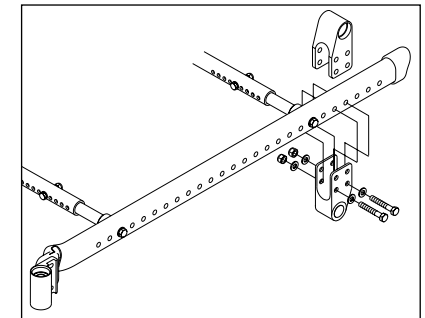
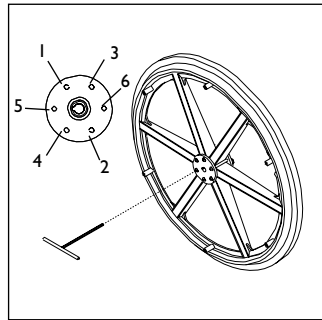

Fig. 5
Fig. 6
I. Installation (Figs. 5 & 6)
- a. Thread screw (4) partially through threaded hub (3) to position hubs on both sides of wheel.
- b. Insert alignment tool or axle with key (2) through hub and wheel assembly, aligning keyways.
- c. Add washer (5) and thread nut (6) on alignment tool.
- e. Install screws on hubs in sequence shown (Fig. 6) using 1/8" Allen wrench.
- f. Remove screw (4) and alignment tool (2).